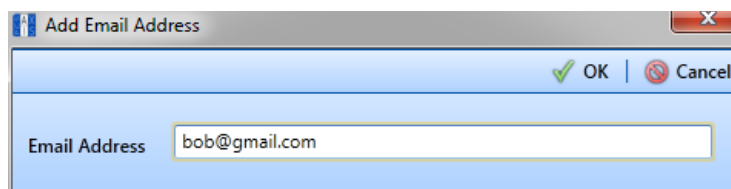

Figure 11-2. Add Email Address
- Click  **Add Email** to open the *Add Email Address* dialog box (Figure 11-2).